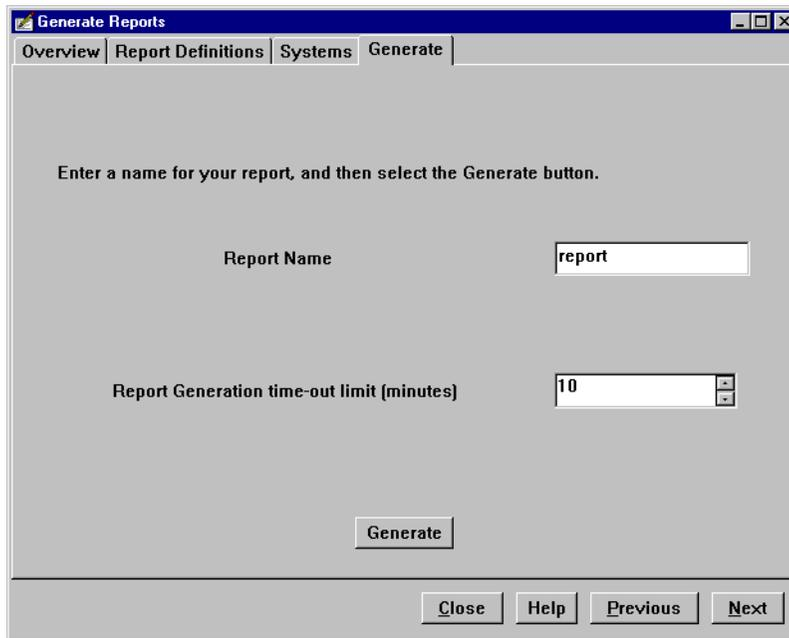

Figure 133. Generate Window
Click the **Generate** tab, or the **Next** button. Figure 133 appears:
- Time — the time elapsed since the request was issued; 100% is the number of minutes you specified in Figure 133 on page 172.